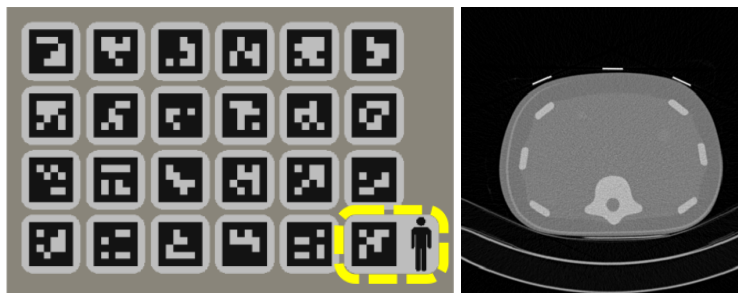

Figure 24: VisiMARKER sheet (Orientation Marker highlighted in yellow) (left); “early markers” appearance in high-quality CT slice (right)
The **CLEAR GUIDE SCENERGY** system can perform real-time image fusion between ultrasound images and 3D imaging volumes. For CT, the patient needs to be prepared with skin-attached **CLEAR GUIDE** VisiMARKER fiducials placed around the intervention site before performing the interventional scan (Figure 24). These VisiMARKERS will then allow registration. The markers visible in the 3D imaging volume are called “early markers”.
2. *Optionally:* Align the Orientation Marker (with patient icon; Figure 24) with the patient as shown in Figure 25, with the head on the icon towards the patient’s head. Markers should only be applied on clean, dry, and shaved skin.